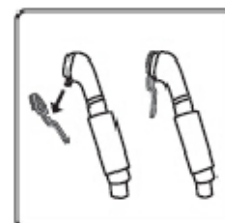

fig.26
- Align the slot on the back of the fabric brush with the clip on the bottom of the steam head and gently slide the brush up on to the face of the steam head. (fig.26)